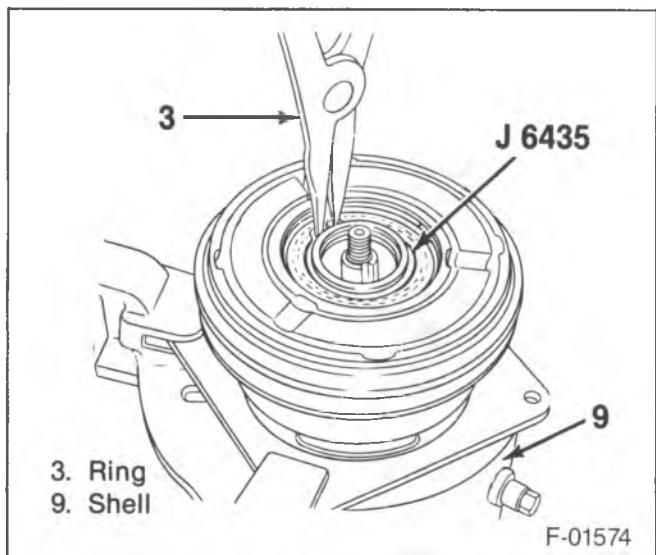

Figure 6—Removing the Pulley Retainer Ring
- Clutch plate and hub assembly (2).
- Pulley bearing retainer ring (3) with J 6435 (figure 6).
- Pulley (6).